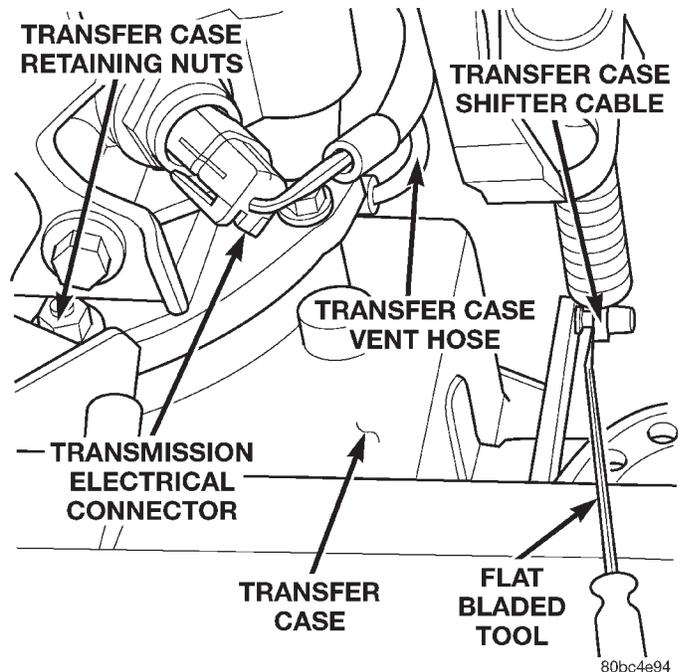

Fig. 17 Disconnecting Transfer Case Shift Linkage
(10) Disconnect the transfer case shift cable from the shifter arm (Fig. 17).
(11) Disconnect the vent tube from the transfer case (Fig. 17).
(12) Remove the transmission oil pan and drain the transmission fluid. Reinstall the transmission oil pan.
(13) Remove the drainpan.